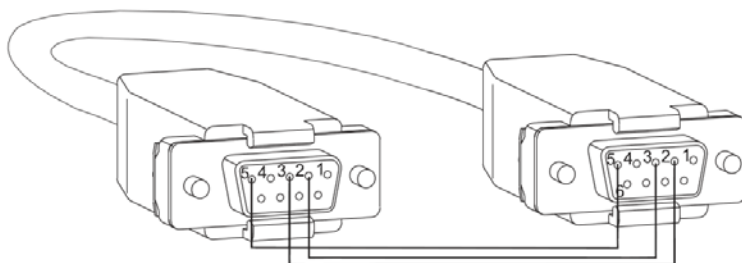

FIG. 159 RS-232 pinout for null modem serial cable
1. Attach a null modem serial cable matching the RS-232 pinout (FIG. 159) to the Control port on the enclosure's CPU and attach the free-running end of the cable to a PC.